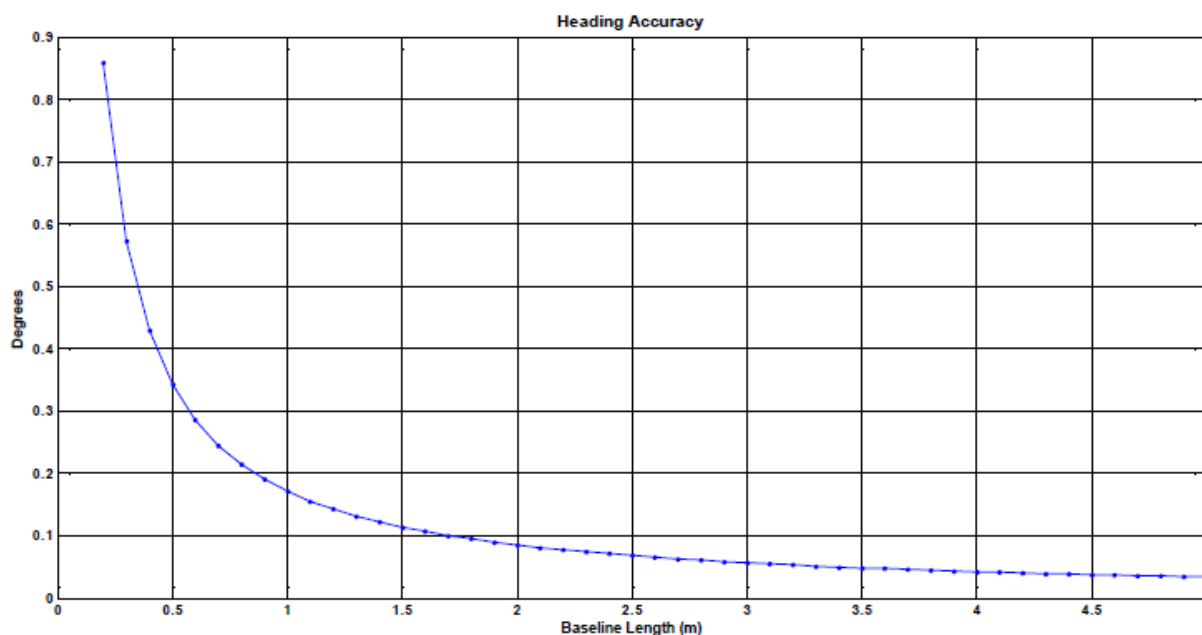

Figure 15 - NovAtel ALIGN Heading Accuracy vs. Baseline Length
- The distance between the two GPS antennae must be at least 0.5 meters. The accuracy of the heading solution is dependent on the baseline length between the master's antenna and the rover's antenna. The longer this baseline is, the more accurate the heading. See Figure 15 - NovAtel ALIGN Heading Accuracy vs. Baseline Length